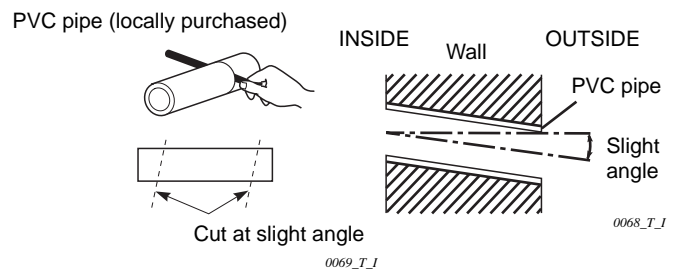

Fig. 3-67
- (9) Measure the thickness of the wall from the inside to the outside and cut PVC pipe at a slight angle to fit. Insert the PVC pipe in the wall. (Fig. 3-67)